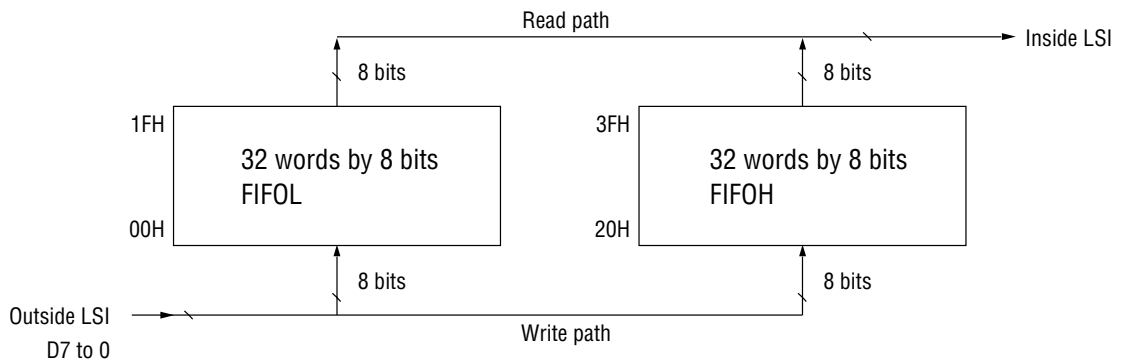

Figure 1 FIFO memory configuration when 64 words by 8 bits (512 bits) are selected.
- (1) The FIFO memory space has two FIFO paths (FIFOL and FIFOH) to enable asynchronous read and write operations in different cycles (see Figure 1). When FIFOL is used for a write operation, FIFOH is used for read operation. When FIFOL is full with data and writing in FIFOL is ready to be read.
- (2) The FIFO memory has two address pointers : a read address pointer that points to an address where data read has been completed and a write address pointer that points to an address where data write has been completed. When these two address pointers match, recording or playback ends.
- (3) Initially, these two pointers point to an identical address. (FUL="L,"MID="L," and EMP="H")